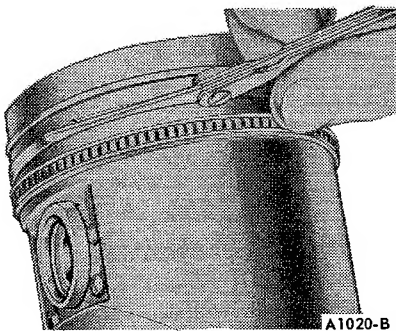

FIG. 13 Checking Piston Ring Side Clearance
6. Check the ring side clearance of the compression rings with a feeler gauge inserted between the ring and its lower land (Figure 13). The gauge should slide freely around the entire ring circumference without binding. Any wear that occurs will form a step at the inner portion of the lower land. If the lower lands have high steps, the piston should be replaced.